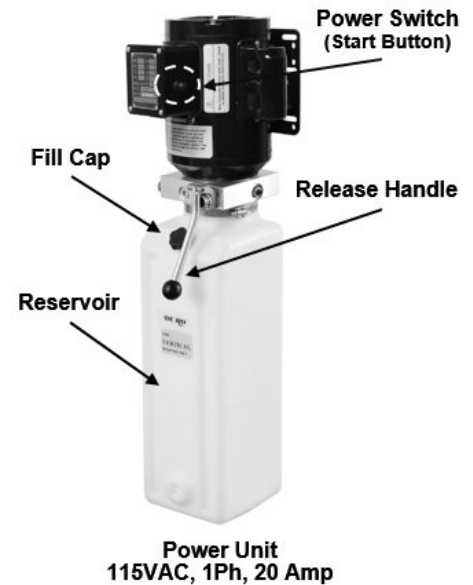

Fig. 29
**To Raise**, push the power switch button on the power unit and hold while it the electric motor turns on. The motor operates an internal pump that forces hydraulic oil into the lift piston, which extends the piston rod & roller chain to raise the lift. (Fig 29.)
For safety, it is required to release the hydraulic pressure inside the cylinder to lower the lift to nearest lower latch stop. To do this, simply press down the release handle on the power unit. Then, the lifting frame and carriage’s safety latch will rest on the latch stop inside the column. (Fig 29.)